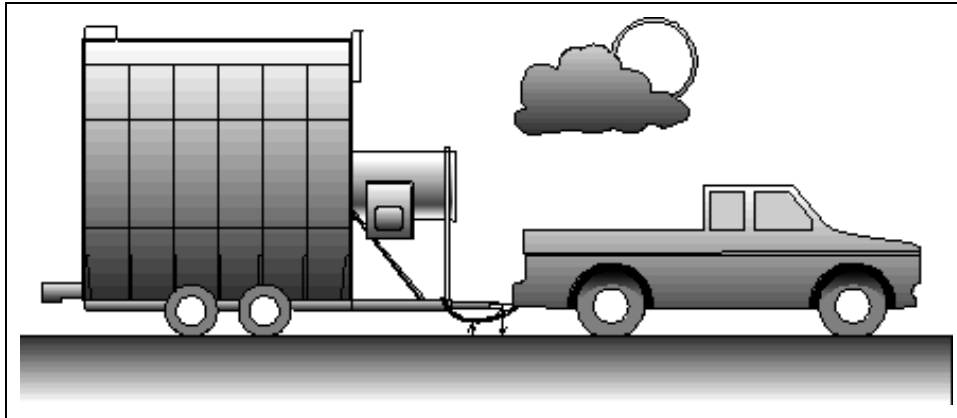

Figure 4A Use a 14"-17" Towing Hitch Height and a Safety Chain
1. Recommended towing hitch height is 14"-17". (See Figure 4A.)
4. Always use a safety chain. (See Figure 4A.)